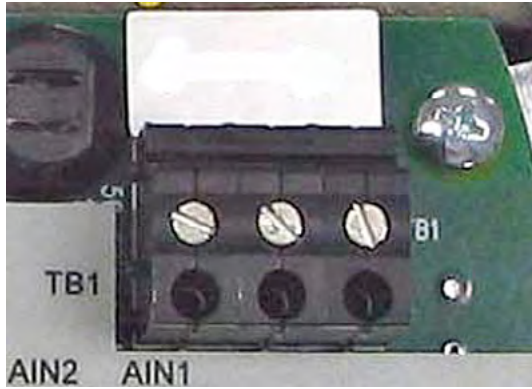
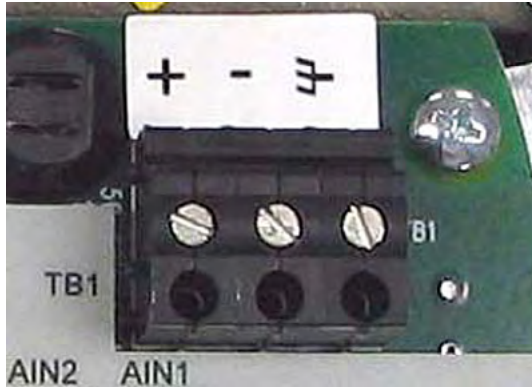

Figure 16: Wiring the AC line power
Figure 17: Wiring the DC line power
See *Figure 16* on page 11 or *Figure 17* on page 11 to locate terminal block **TB1** and to connect the line power as follows:
2. Route the cable through one of three conduit inlet ports (see *Figure 15* above) and connect the line power leads to terminal block **TB1**, using the pin number assignments shown in *Figure 30* on page 17 and *Figure 16* on page 11 or *Figure 17* on page 11.
3. Run the power connections to the *power terminal block* shown in Figure 16 (AC power) or Figure 17 (DC power) above. The use of 12-18 AWG (3.3 - 0.82 mm²) wire is recommended for the power connections.
5. Route the cable through the chosen conduit hole and connect the line power leads to terminal block **TB1**, using the pin number assignments shown in *Figure 31 on page 18* and *Figure 16 on page 11* or *Figure 17 on page 11*.